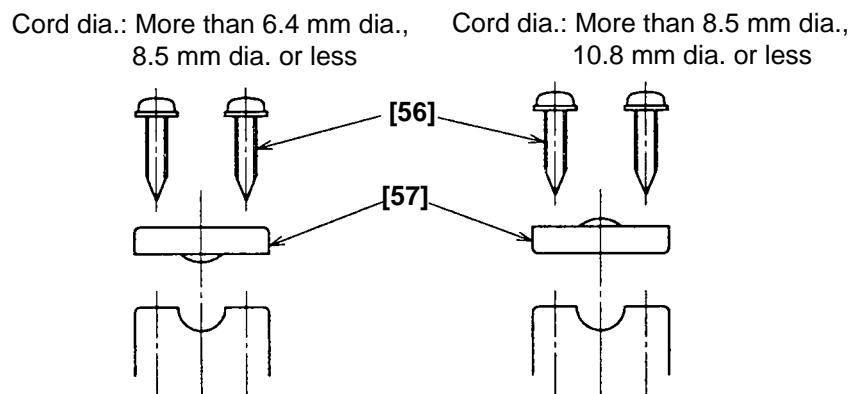

Fig. 18
* Be careful of the mounting direction of the Cord Clip [57]. (Fig. 18)